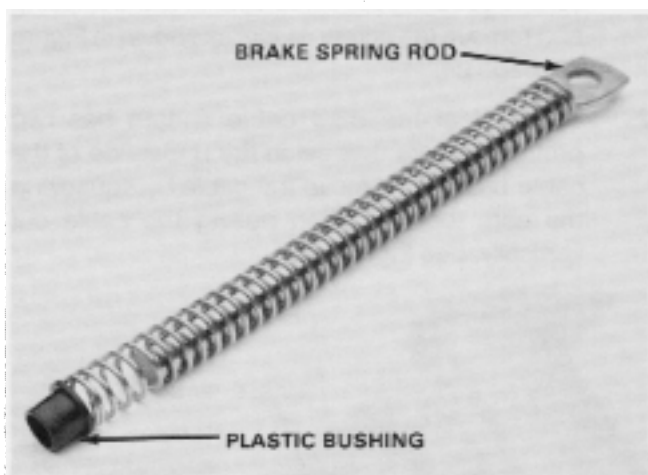

Figure 94
11. Remove the brake plate and hub assembly from the housing and disassemble the seal, or oil impregnated bushing, the hub, self-tapping capscrew and washer from the brake lever. Be careful not to lose the plastic bushing which fits on the end of the brake spring rod. See Figure 94.